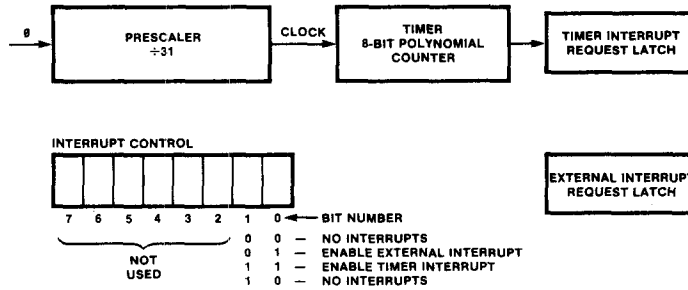

Fig. 1 Timer and Interrupt Control for F3851, F3853 and F3861
4. Three different types of timers and control ports exist. For further detail see Figures 1, 2, and 3.